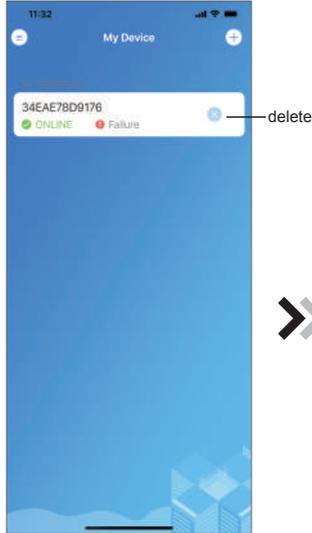

Fig.19 Device management interface
9. After WIFI bonding is done, and jump back to My Device(Fig. 19);
10. After WIFI bonding is done, and jump back to My Device(Fig. 19);